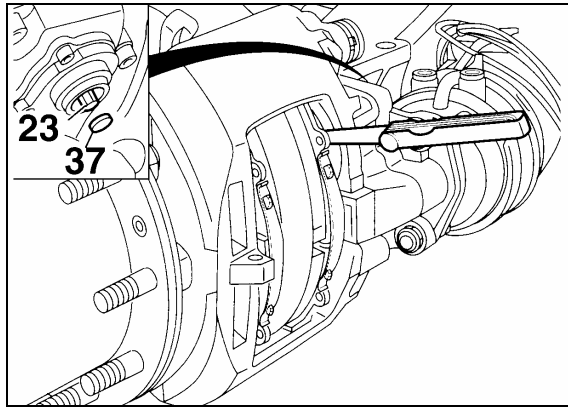

FIGURE 37: RUNNING CLEARANCE 12116
- a) Insert a feeler gauge 0.028 inch (0.7 mm thickness) between tappet and pad backplate (Fig. 37). Turn adjuster pinion clockwise until 0.028 inch (0.7 mm) clearance is achieved. Replace cap (37) (Prévoist # 641313).
- b) To ensure a constant running clearance between the rotor and pads, the brake is equipped with an automatic adjuster unit. When the pads and rotor wear, the running clearance between the pads and rotor increases. The adjuster (23, Fig. 37) and turning device turn the threaded tubes by the amount necessary to compensate the wear.